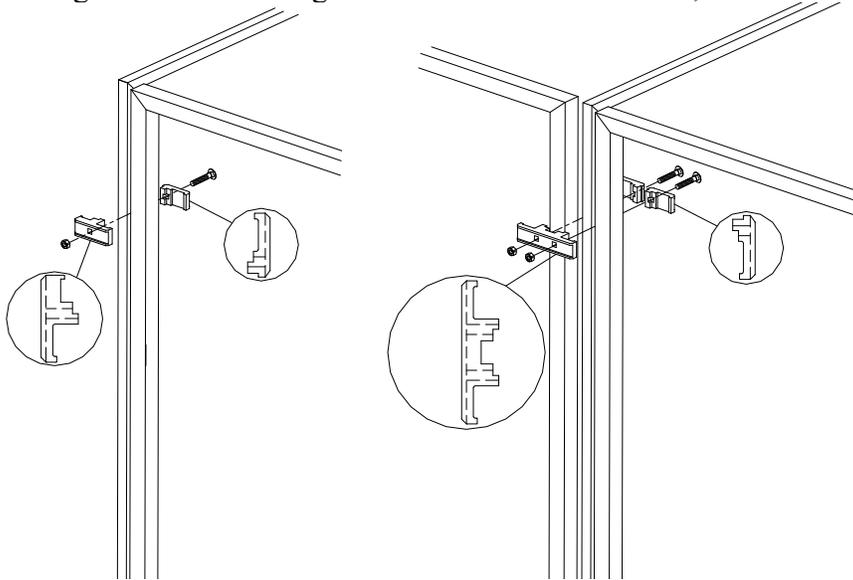
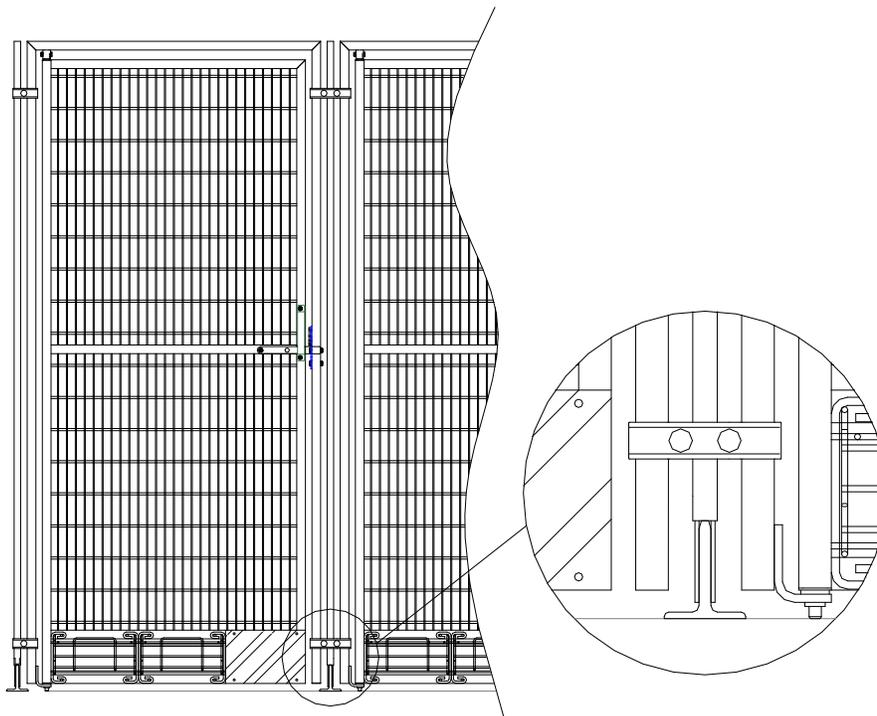

Figure 13
Figure 14.
1. Attach the gate/stall front on the front of each run between the division panels with two clamps on each side using the 5/16" x 1-3/4" bolts and nuts provided as shown in Figure 13. Note: It takes two halves to make up one clamp. Attach gates/stall fronts to outside division panels using "square - 1" panel clamps". All other gates/stall fronts will use "square - 1" triple clamps". **To help insure the safety of the animals the round head of the bolt should be assembled toward the inside of the run.** Note: The triple clamps attach two gates/stall fronts together. Therefore you will have to hang two gates/stall fronts at the same time (see Figure 14).